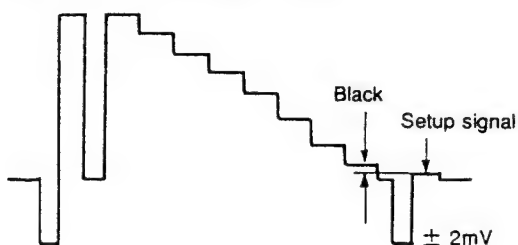

Fig. 2-11.
3. As shown in Fig. 2-11, adjust the R SETUP data so that the black level and setup signal level becomes equal.
5. As shown in Fig. 2-11, adjust the G SETUP data so that the black signal level and setup signal level become equal.
7. As shown in Fig. 2-11, adjust the B SETUP data so that the black signal level and setup signal level become equal.